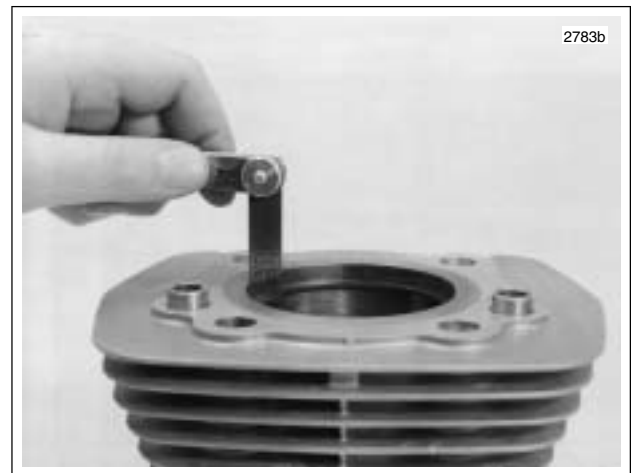

Figure 3-96. Measuring Ring End Gap
1. See Figure 3-96. Insert the new ring into the cylinder, square it in the bore using the top of the piston and measure the ring end gap with a feeler gauge. Do not use the ring if the end gap does not fall within the following specifications, See Table 3-23.